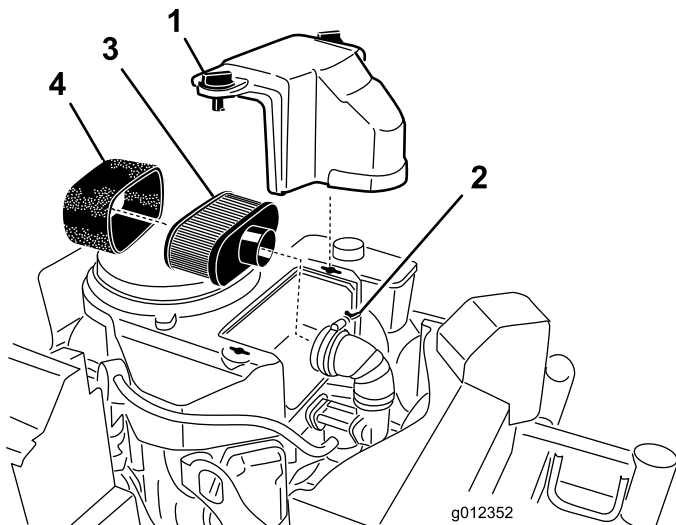

Figure 20
3. Clean around the air cleaner to prevent dirt from getting into the engine and causing damage (Figure 20).
4. Unscrew the cover knobs and remove the air cleaner cover (Figure 20).
5. Unscrew the hose clamp and remove the air cleaner assembly (Figure 20).
6. Carefully pull the foam element off the paper element (Figure 20).
1. Do not clean the paper filter. Replace it (Figure 20).
1. Carefully slide the foam element onto the paper air cleaner element (Figure 20).
2. Place the air cleaner assembly onto the air cleaner base and secure it with the 2 wing nuts (Figure 20).
3. Place the air cleaner cover into position and tighten the cover knob (Figure 20).